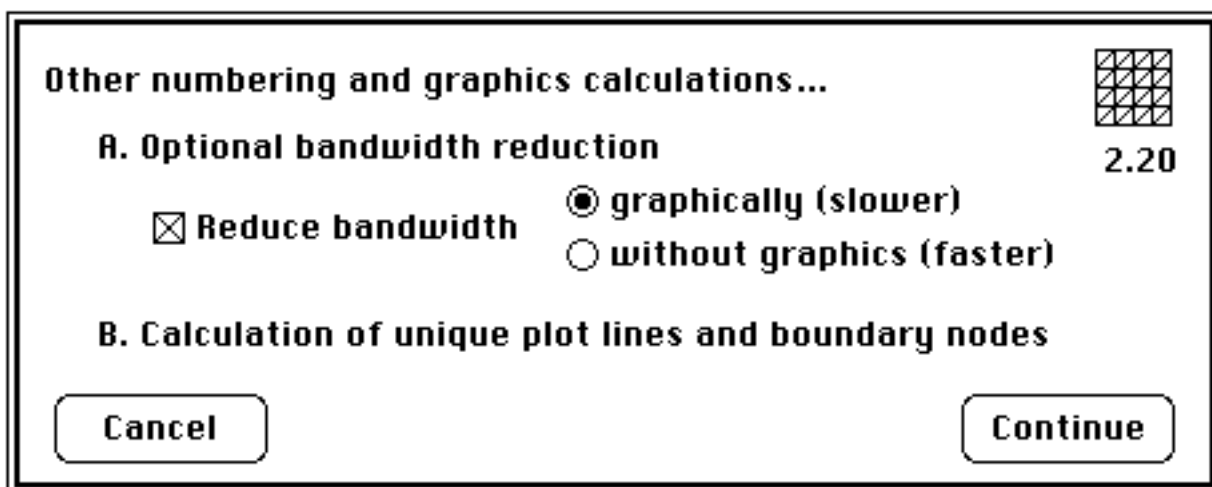

Fig 3.39 Bandwidth reduction choices
- Choose Cancel (Fig 3.39) to abandon the process,